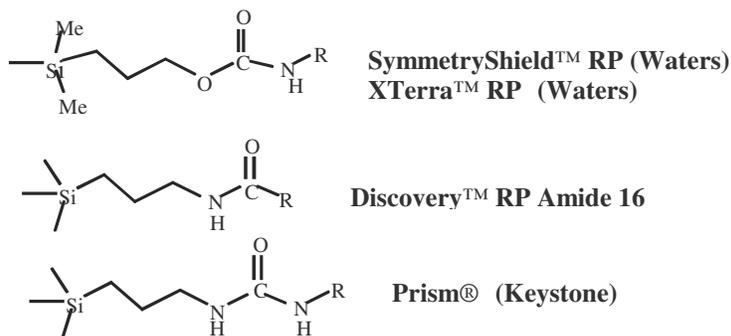

Figure 1. Commercial bonded phases with incorporated carbamate group
Figure 1: Separation of chlordiazepoxide degradation products using a 150 mm x 3.9 mm 5 μm Symmetry® C₁₈ column (a) or a 100 mm x 4.6 mm 3.5 μm Symmetry® C₁₈ column. The plate count of peak 2 is practically identical for both chromatograms.
Of course, many application examples do not tolerate such a radical reduction in run time. In many cases, there are several peak pairs in the chromatogram that do not tolerate a significant change in plate count. Under such circumstances, a switch to a shorter column packed with a smaller particle size results primarily in an improvement in the resolution between the peak pairs. Scaling the column and the flow rate according to the rules mentioned above can get you into a spot of equal resolution but reduced run time. An example for such a case is shown in figure 1. A 150 mm x 3.9 mm column packed with 5 μm particles is compared to a 100 mm 4.6 mm column packed with 3.5 μm particles for the analysis of degradation products of chlordiazepoxide. The shorter 3.5 μm column was run at a higher flow rate, allowing a reduction in analysis time by a factor of 2 at equal resolution of the critical peak pairs. An important consideration in this comparison is the fact that both columns have the identical
There exist several types of bonded phases with an incorporated polar group. They contain different embedded polar groups, and the preparation procedure can be different. The SymmetryShield™ and XTerra™ RP columns (1,2,3) manufactured by Waters Corp. contain a carbamate group, the Prism® and Spectrum columns (4) from Keystone an urea function, and the Discovery™ RPAmideC16 from Supelco an amide group (Fig. 1). All of these columns are prepared in a single-step bonding reaction: the ligands are assembled first, and then attached to the surface in a single step, or at least there is no evidence for a multi-step surface reaction.